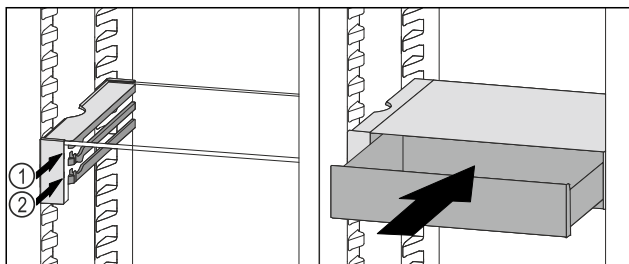

Fig. 78
- ▶ Place the VarioSafe drawer behind the stoppers on desired rib Fig. 78 (1) or Fig. 78 (2).